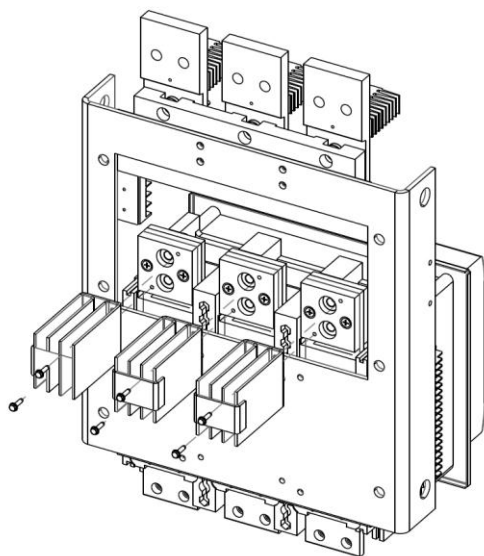

FIG.2 1200A-1600A BOTTOM FEED SWITCH
2. HOLD HEAT SINKS IN PLACE AND START SCREWS IN THE HEAT SINK BRACKETS AS SHOWN IN FIG.2. TIGHTEN ALL SCREWS 30 IN-LBS.